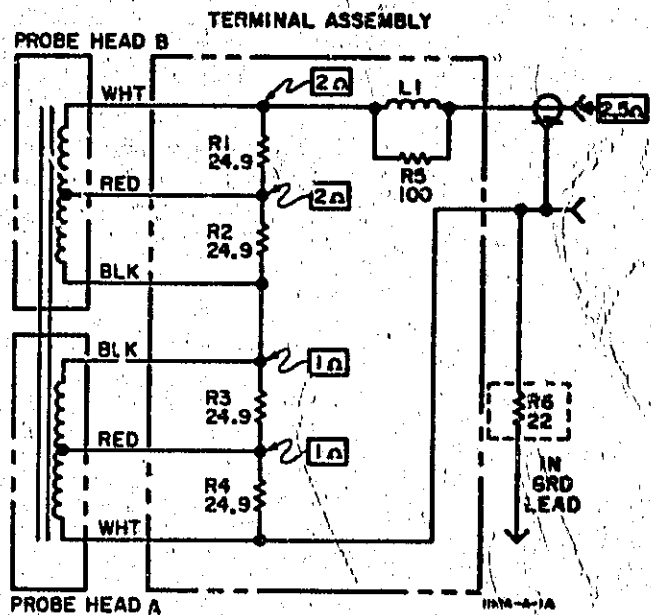

Figure 7. Probe Schematic
35. The following procedure outlines probable causes of trouble with the Model 1110A. Resistances of the windings, as measured from the ground side of the probe, are shown on the schematic, Figure 7.